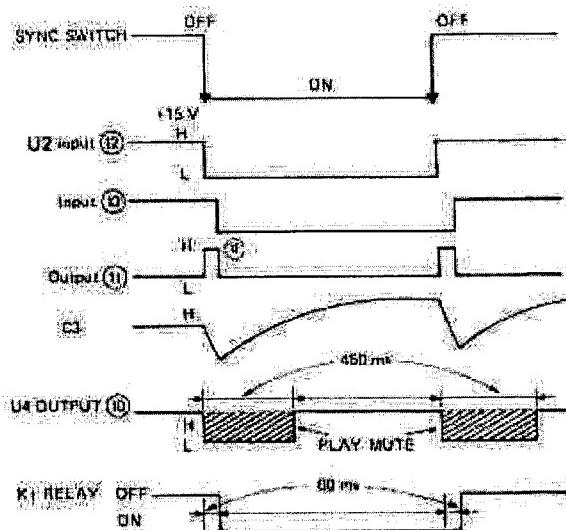

Fig. 8-8-1. Sync On/Off Mute Timing Chart
- a) When the SYNC switch is operated, levels at each input pin of the EX-OR gate U2 (11, 12, 13) become as shown in Fig. 8-8-1. Pulse (a) appears at output pin 11 of U2 (11, 12, 13) for a period equal to the time constant of C1.R18. This pulse causes C3 installed ahead of pin 9 of U2 (8, 9, 10) to store and release the charge through R24 as the SYNC switches on and off.